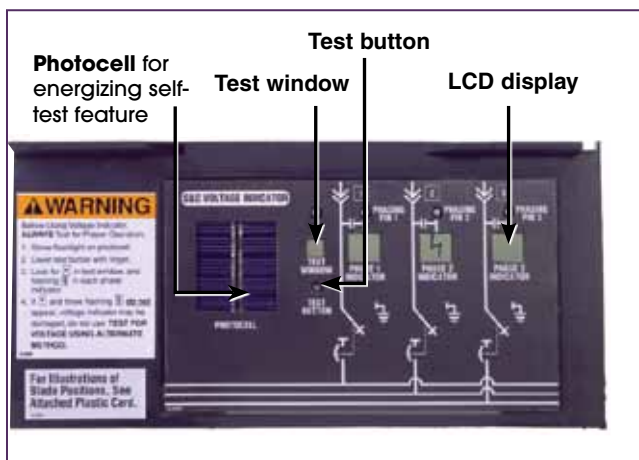
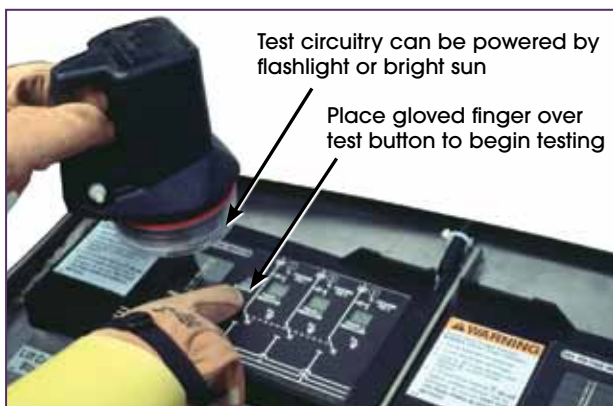

Figure 4. Voltage indicator.
Figure 5. Testing the voltage indicator.
2. Confirm that the cable is de-energized so it can be safely grounded. With traditional gear, the medium-voltage cables must be tested directly using a clampstick-mounted tester. But voltage testing with Vista UDS can be accomplished simply and easily without ever accessing the cables. Simply use the voltage indicators shown in Figure 4. The voltage indicator is even equipped with a self-test function, so you can “test the tester.” See Figure 5.